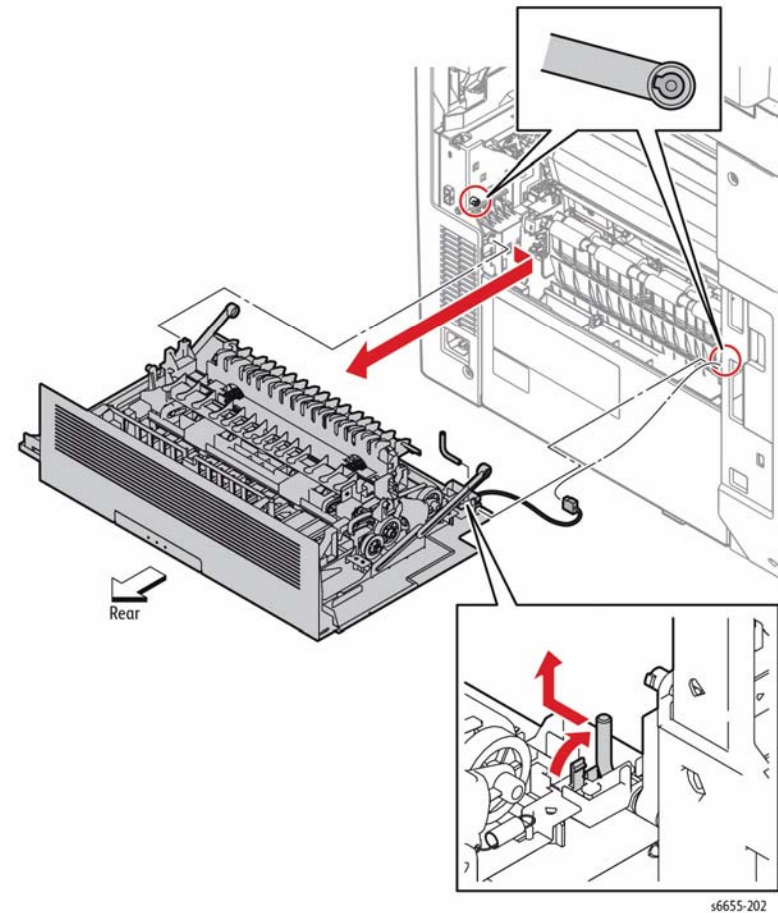

Figure 2 Remove the Rear Cover/Duplex Assembly
4. Referring to Figure 2, remove the Rear Cover Links by raising the Rear Cover slightly so that the holes on the Rear Cover Links can be released from the keyed bosses on the left and right.